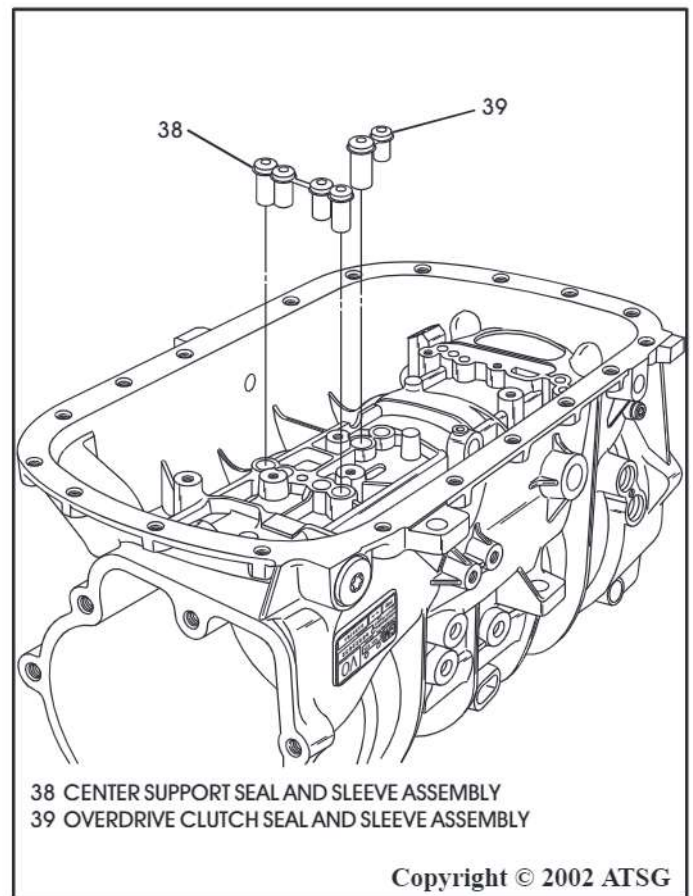

Figure 196
34. Rotate the transmission in fixture so that the bottom pan side is facing up, as shown in Figure 196.
35. Install the valve body to case seal assemblies, as shown in Figure 196.